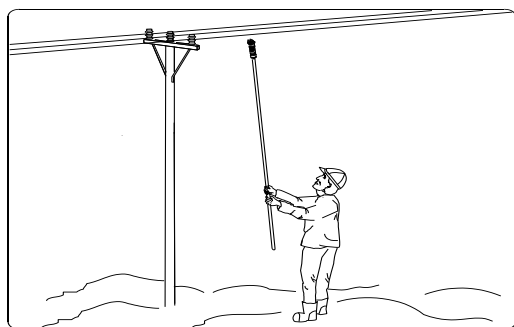

Figure 14 Hot-stick mounting, - close to the traverse
LINETROLL 110E μ mounts directly on the high voltage conductor using a Hot-stick as shown in fig 14. It should be mounted as close as possible to a traverse to escape line vibrations.
1. Fix the indicator to the hot-stick and raise/lift it to the line as shown in fig 14.